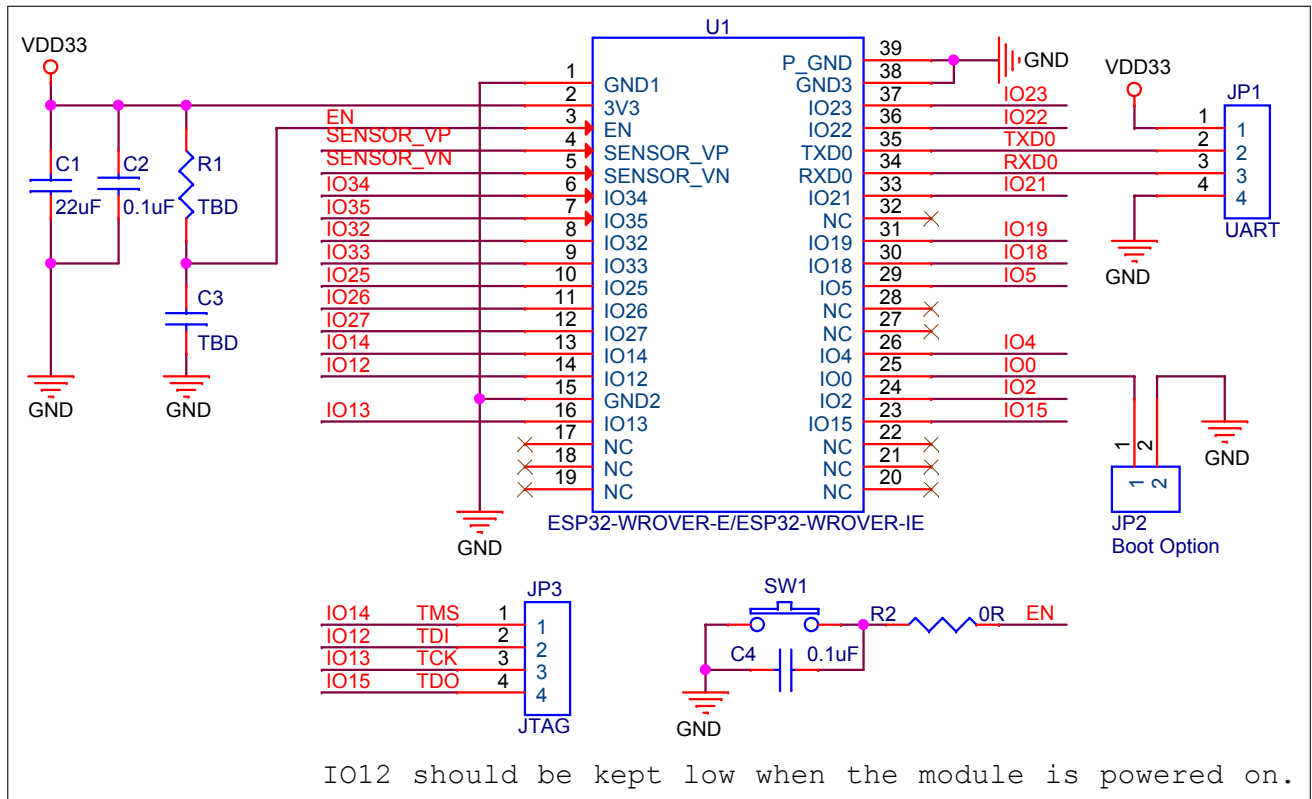
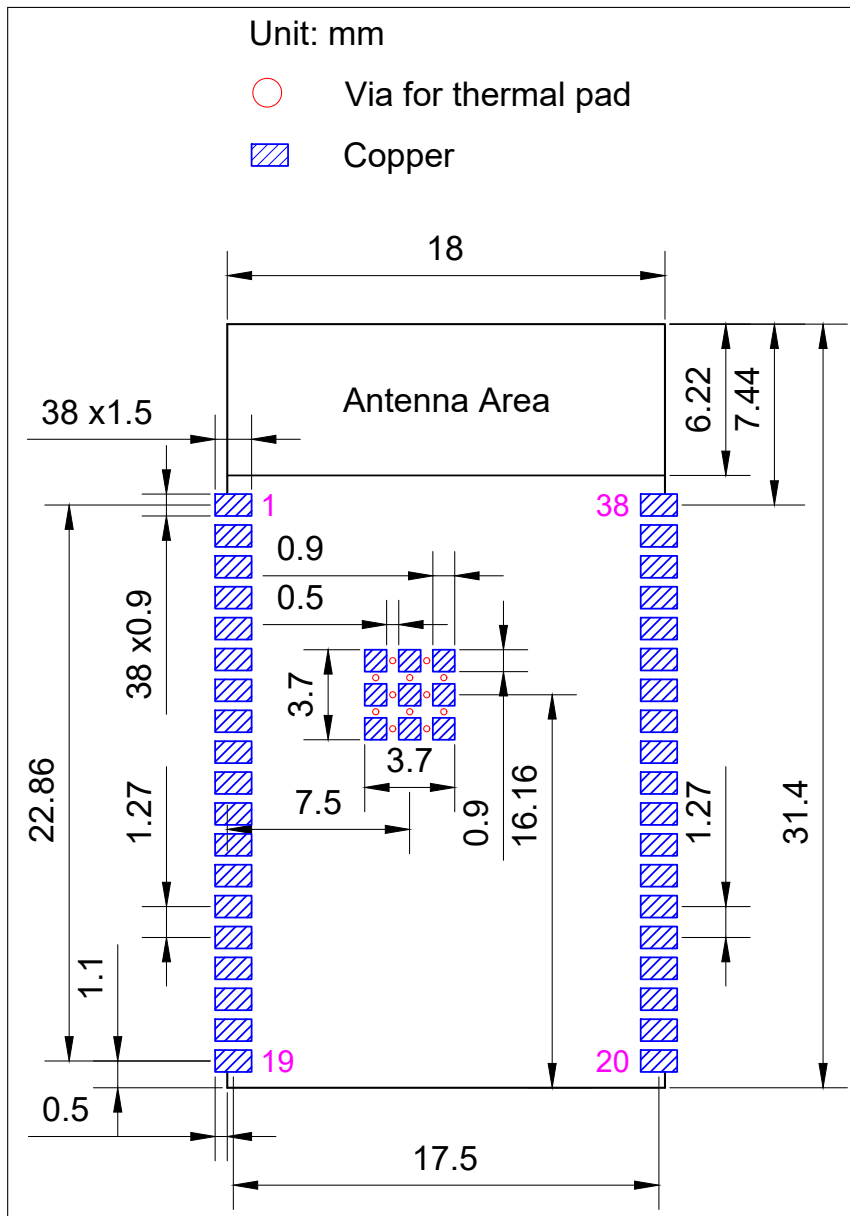

Figure 9: Peripheral Schematics
Figure 12: Recommended PCB Land Pattern
- Source files of recommended PCB land patterns to measure dimensions not covered in Figure 12. You can view the source files for ESP32-WROVER-E and ESP32-WROVER-IE with Autodesk Viewer.
| 2023-11-21 | v1.9    | <ul style="list-style-type: none"> <li>Table 1: Added information about flash</li> <li>Figure 9 Peripheral Schematics: Updated the note about soldering</li> <li>Section 11 Dimensions of External Antenna Connector: Added information about the antenna external connector</li> </ul>  |
| 2021-02-09 | V1.4    | <p>Updated Figure 9: Physical Dimensions</p> <p>Updated Figure 12: Recommended PCB Land Pattern</p>  |